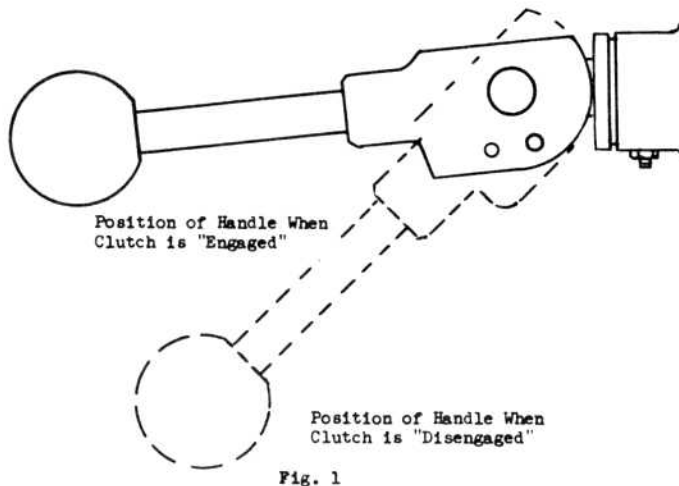

Fig. 1
1. With Allen wrench, loosen set screw "U" and turn clutch lever clockwise until clutch engages in proper position. (See figs. 1 & 2) Clutch lever should not go beyond the perpendicular to the thrust collar "R".